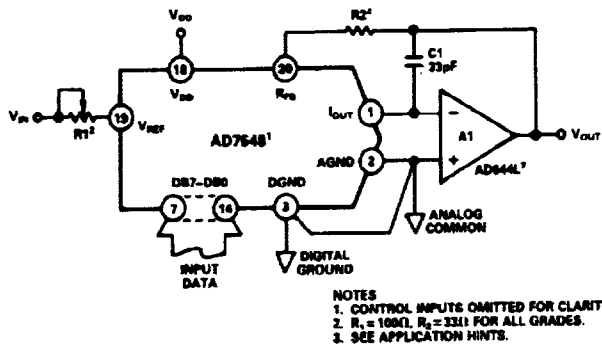
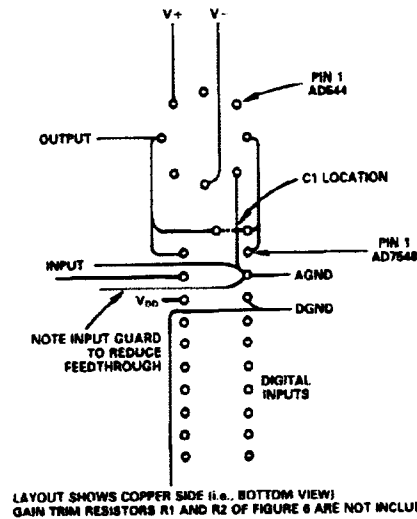

Figure 6. Unipolar Binary Operation
Figure 9. Suggested Layout for AD7548 and Op Amp
The contents of the DAC register can be overridden by pulling  $DF/\overline{DOR}$  (pin 5) LOW. The  $CTRL$  (pin 6) input then determines whether the DAC register data is overridden by all 0s ( $CTRL$  LOW) or all 1s ( $CTRL$  HIGH). This feature allows the user to calibrate the AD7548 in circuits such as Figure 6 without calling on the microprocessor to load calibration data.
Figure 6 shows the analog circuit connections required for unipolar binary operation. With a dc input voltage or current (positive or negative polarity) applied at pin 19, the circuit is a unipolar D/A converter. With an ac input voltage the circuit provides 2-quadrant multiplication (digitally controlled attenuation).
Table I shows the code relationship for the circuit of Figure 6.
Table I. Unipolar Binary Code Table for Circuit of Figure 6
**Output Offset:** CMOS D/A converters in circuits such as Figures 6 and 7 exhibit a code dependent output resistance which in turn cause a code dependent amplifier noise gain. The effect is a code dependent differential nonlinearity term at the amplifier output which, depends on VOS where VOS is the amplifier input offset voltage. To maintain monotonic operation it is recommended that VOS be no greater than  $(25 \times 10^{-6})(V_{REF})$  over the temperature range of operation. Suitable op amps are AD517L and AD544L. The AD517L is best suited for fixed reference applications with low bandwidth requirements: it has extremely low offset (50μV) and in most applications will not require an offset trim. The AD544L has a much wider bandwidth and higher slew rate and is recommended for multiplying and other applications requiring fast settling. An offset trim on the AD544L may be necessary in some circuits.
**Feedthrough:** The dynamic performance of the AD7548 will depend upon the gain and phase stability of the output amplifier, together with the optimum choice of PC board layout and decoupling components. A suggested printed circuit layout for Figure 6 is shown in Figure 9 which minimizes feedthrough from VREF to the output in multiplying applications.